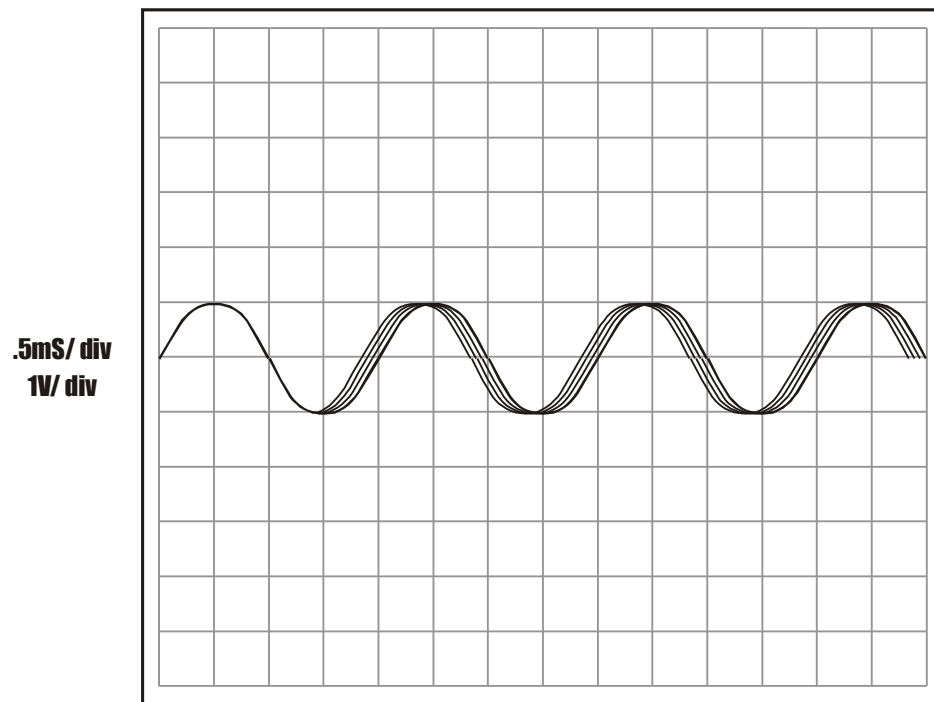

FIG. 5.8
- Switch on the power supply and observe the signal on the CRO at the **OUT** post of Analog Buffer, FM waveform from **FIG. 5.8** could be observed.
- Increase the time period on the oscilloscope and you could obtain the waveform as shown in the **FIG. 5.8**. to obtain this figure keep your voltage level to **0.5V** p-p.